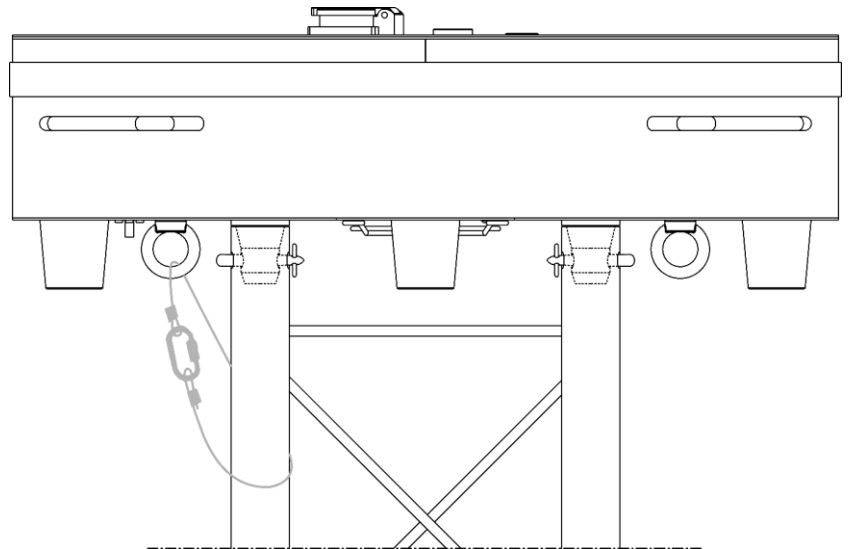

Fig. 13
- 07) Secure the device with a secondary suspension, for example a safety cable as shown in Fig. 13. Put the safety cable through the **safety eye (13)**.